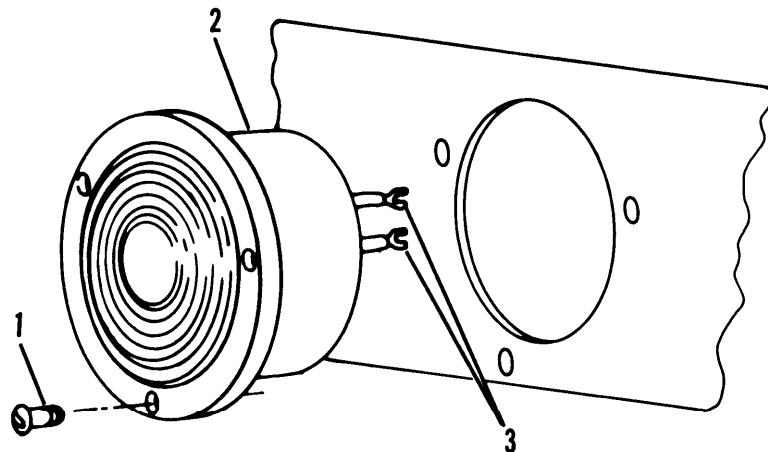

Figure 4-10. Taillight
(1) Remove three screws (1, fig. 4-10).
(2) Remove taillight assembly (2).
- (1) Connect wiring (3, fig. 4-10).
- (2) Install light assembly (2) into position.
- (3) Install three screws (1).
- (4) Connect electrical power and test for proper operation.